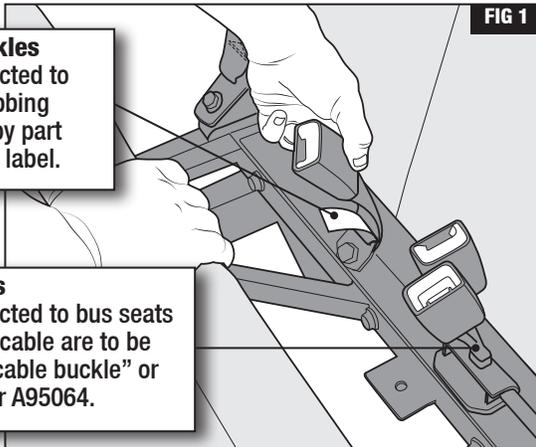

FIG 1
3. **IF** you have buckles that fall into the date code range, then please gather buckle part numbers (FIG 1) and total quantities for ordering replacement buckles from IMMI.